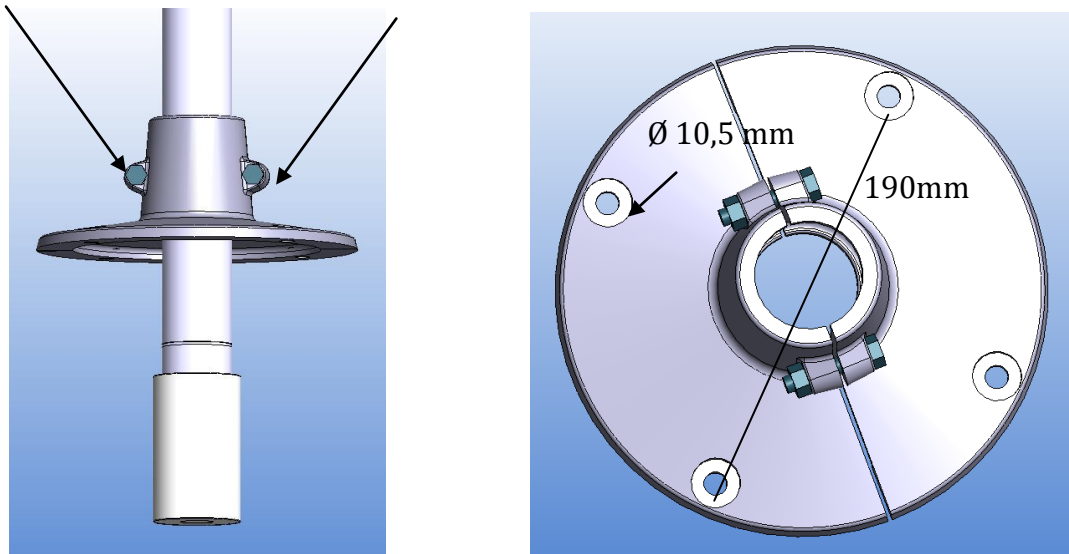

Figure 5: Base plate
1. Install the base plate on the desired height on the pump body (Figure 5)
3. Install the base plate on the slab. Hole pattern is 4x190 mm and diameter 10,5 mm (Figure 5).